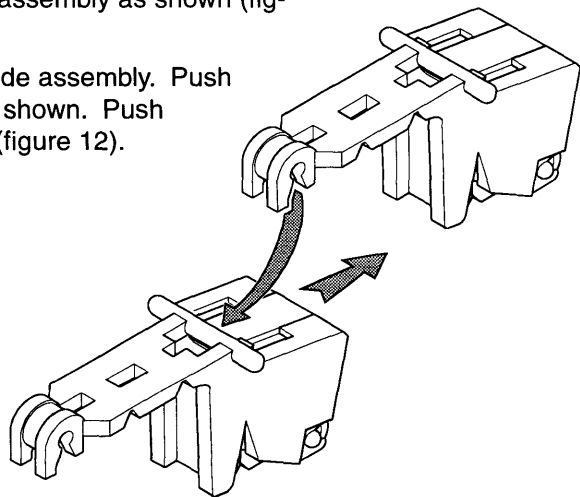

Figure 12
4. Pull both ends of the chain over the bottom of the slide assembly. Push the white slide flush with the back of the housing as shown. Push the snap connector on to the support pin as shown (figure 12).
For clarity, figure 12 shows the underside of the chain links.